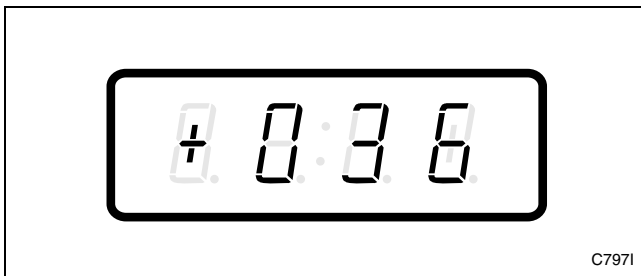

Figure 139
3. Press the DELICATES (+) or the COLD (-) keypad to scroll through the programmable options until “+036” appears in the VFD. Refer to *Figure 139*.